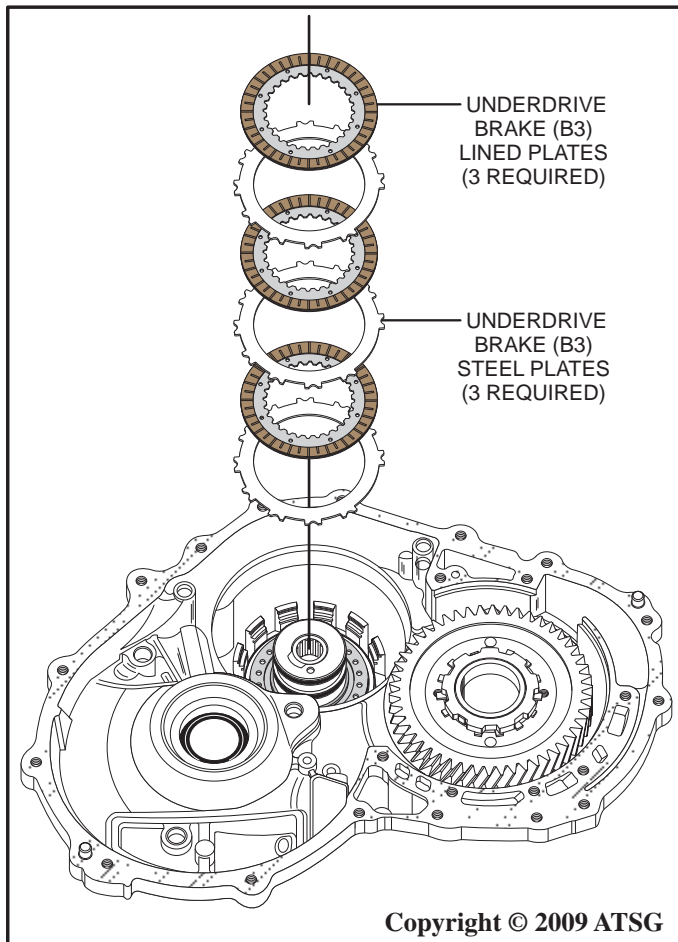

Figure 190
89. Install the underdrive brake (B3) clutch plates into the case beginning with a steel plate, then alternating frictions and steels until there are three steel plates and three lined plates in the case as shown in Figure 190.